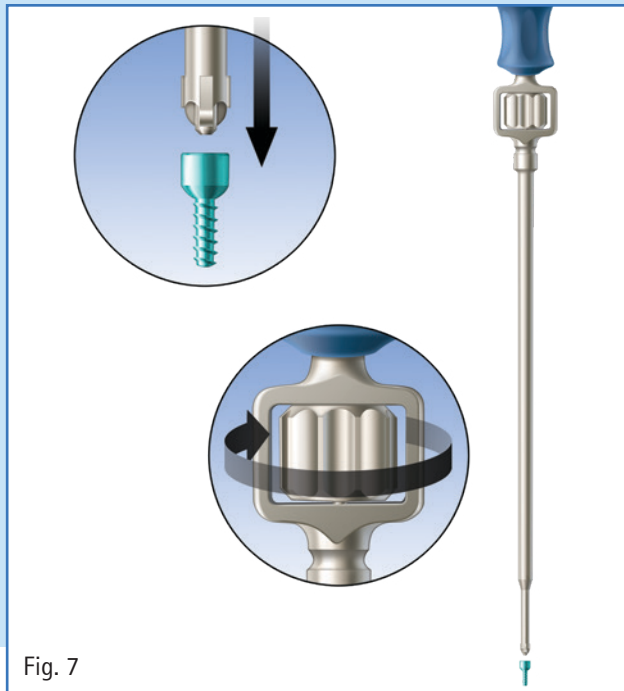

Fig. 7
- A. To load the allograft screw onto the screwdriver, place the screwdriver over the screw head and turn the screwdriver's thumbwheel until threaded internal shaft is fully engaged into the threaded receptacle in the screw head (Fig. 7).